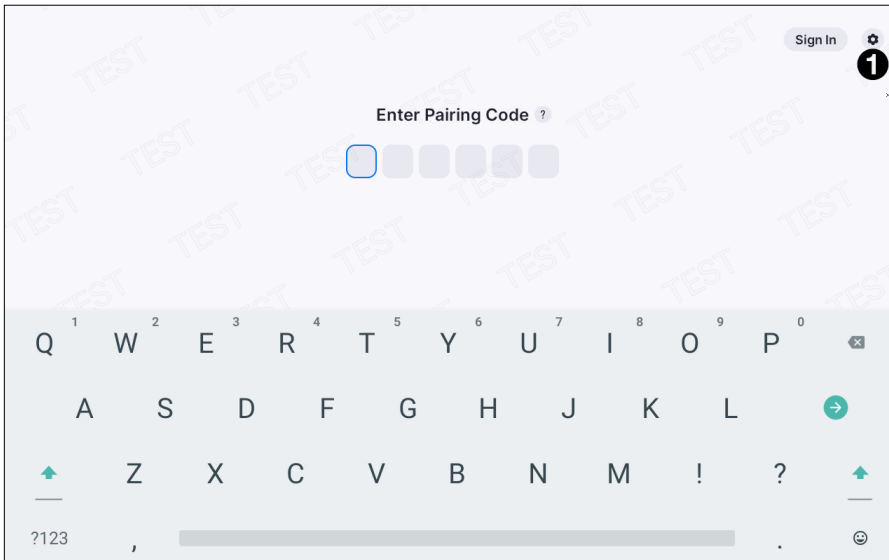

Figure 6. Click Settings Icon
2. Click the settings icon (figure 6, **1**).